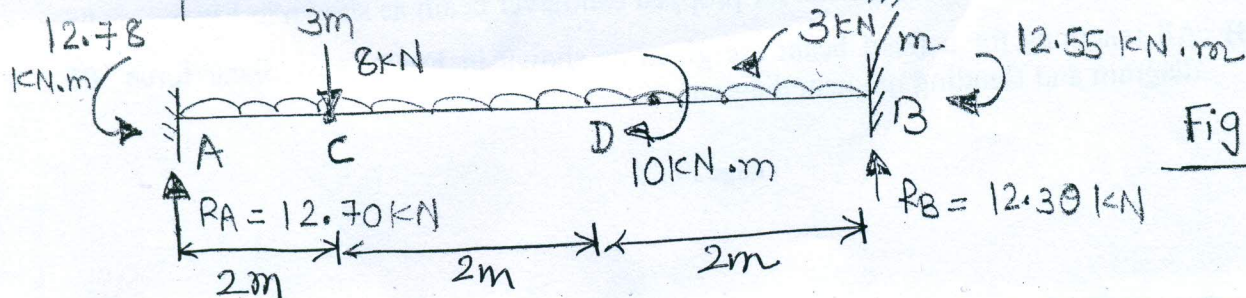

Fig.7
**(B)** All reactions for a fixed beam are given as shown in **Fig.7.** Draw Shear force diagram and Bending moment diagram. 05